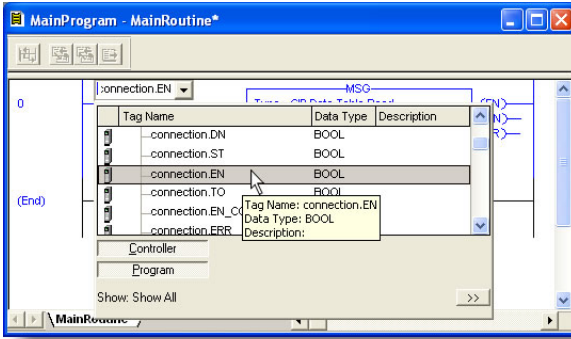

Figure 101: Configure XIO Element
- a) Double-click on the XIO element located to the left of the MSG block. In the drop-down box, double-click on the "connection.EN" field. Refer to Figure 101. This configuration causes the MSG instruction to automatically retrigger itself when it completes. While this is acceptable for the purposes of this example, it can produce high network utilization. In actual practice, it may be desirable to incorporate additional logic elements to allow triggering the MSG instruction at a specific rate or under specific conditions.